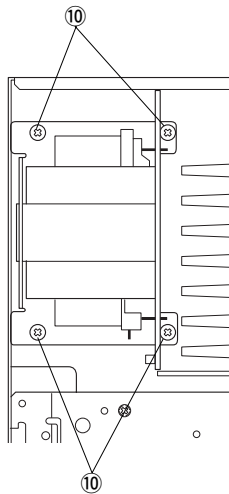

Fig. 8
- Remove 4 screws (⑩) and then remove the Power Transformer in Fig. 8.